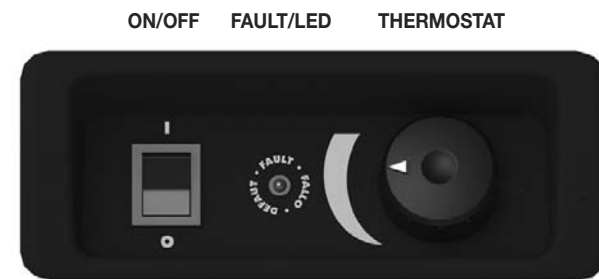

FIG. 1
*NOTE: This heater is equipped with an overheat limit switch which may cause the heater to stop. This is indicated by a visual alarm when the power switch is in the on position and the "fault" light comes on. (fig 1) Check and remove the cause of the overheating before restarting. Preform steps 1 through 3 of the Stop Heating procedure above. Once the unit is cool (may take up to 15 minutes) remove the black cap near the handle base, using a flat head screw driver if necessary. Using a non-metallic object, depress the reset switch inside the access hole. When the heater is plugged back into power and turned on the "fault" light will dim and the heater may be operated again. Replace the black cap into the access hole.*